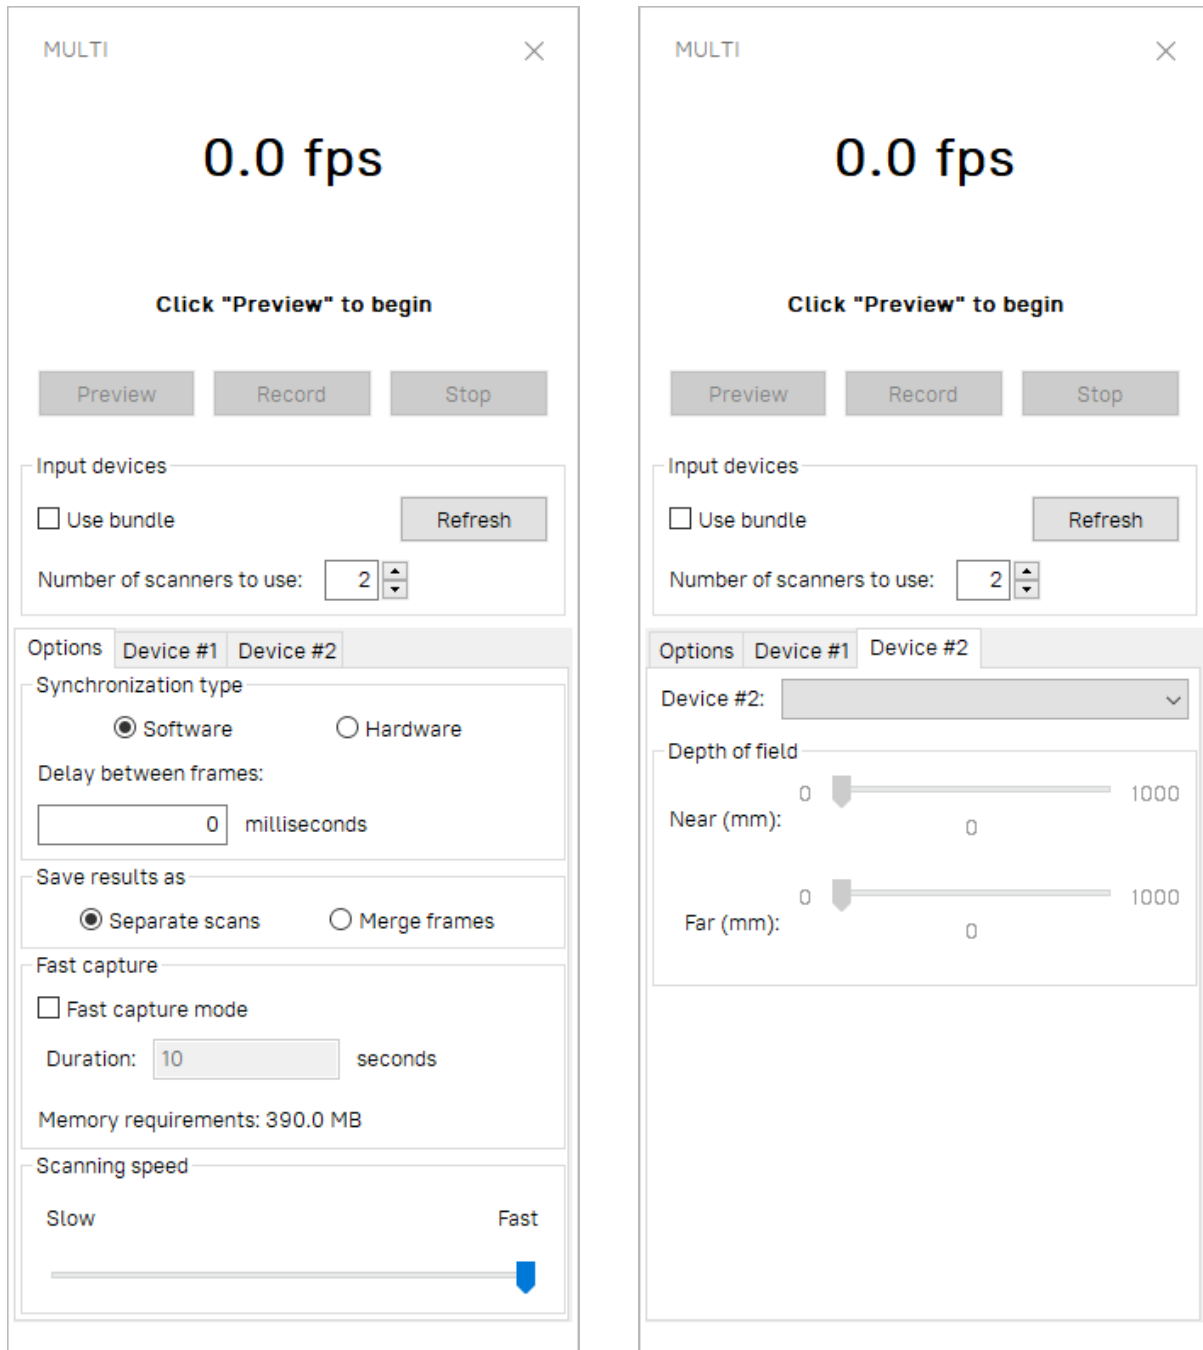

Figure 136: Multicapture panel: *Options* tab on left, *Device* tab on right.
1. Select *File* → *Multicapture (bundle)*. The panel will open (see Figure 136).
Sometimes, limiting the cameras' field of view is necessary (e.g., to cut off extraneous distant objects). Two sliders in the *Depth of field* area set the near and far scanning boundaries. The application sets work-area boundaries for each device independently in the device tabs (see Figure 136, right). By default, the minimum and maximum boundary